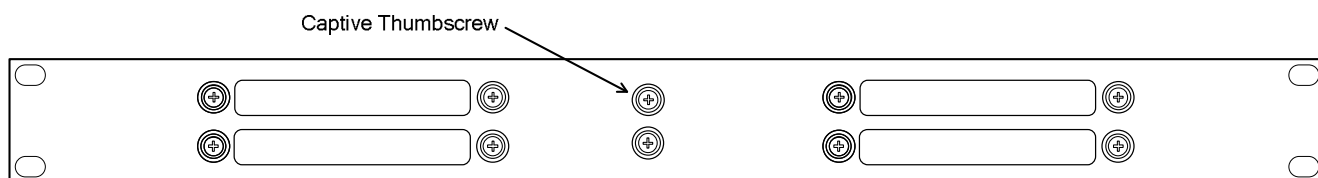

Figure 2. Extender Frame Front View
- Secure all modules by tightening the captive thumb screw on the front of the frame as shown in Figure 2.